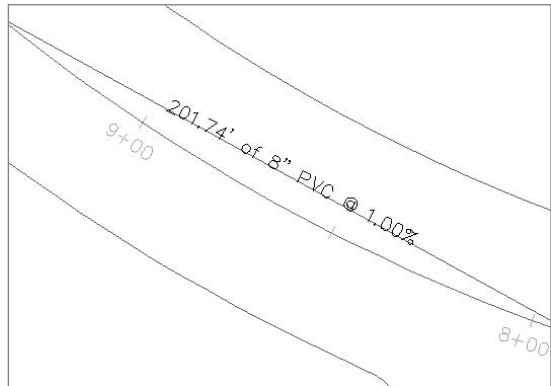

Figure 13.5
7. Note that labeled pipes have appeared between each structure as shown in Figure 13.5. Press  $\downarrow$  to exit the command. The Network Layout Tools dialog will remain on the screen.